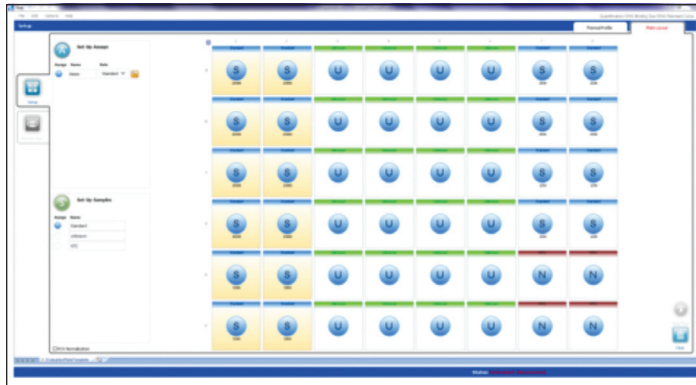

Figure 18 Plate Layout Tab, Assigning Assays and Samples
- 1 Left-click and drag the mouse to highlight one or more wells on the plate layout diagram. Wells turn yellow when they are highlighted, as shown in columns 1 and 2 of Figure 18.